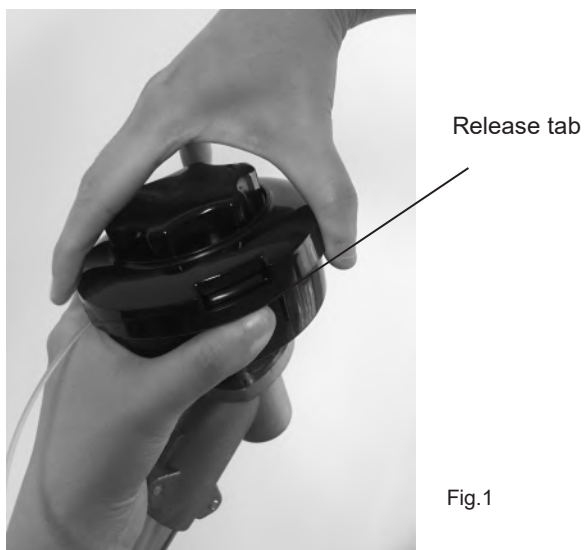

Fig. 1
- Press the release tabs on the line spool cover as shown in Fig. 1, and remove the spool by pulling it straight off. Remove and discard all line on the spool.